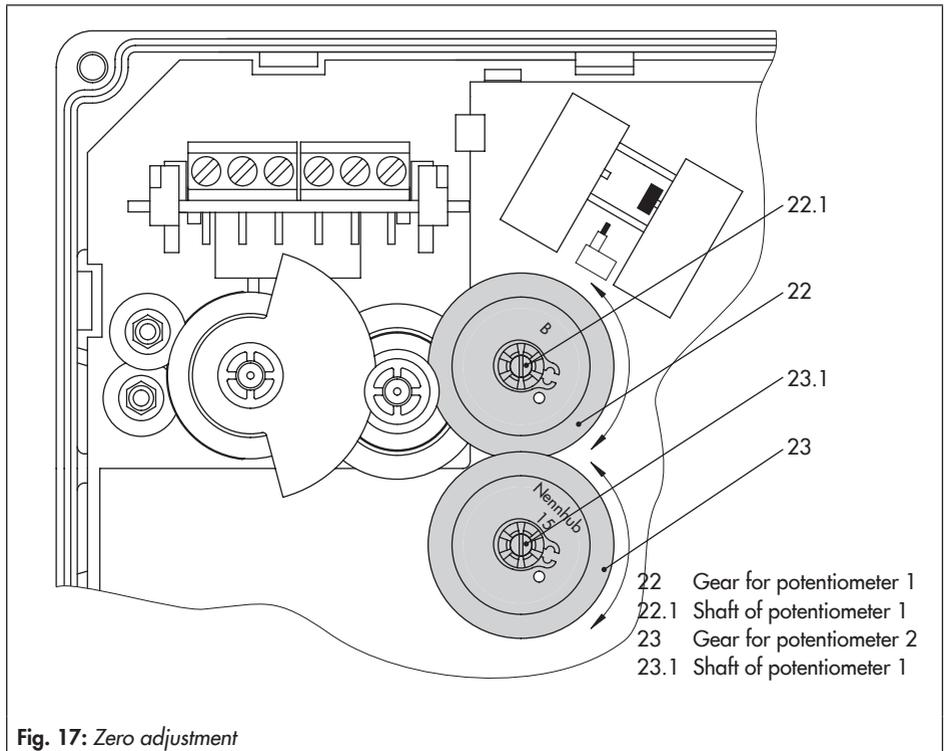

Fig. 17: Zero adjustment
4. The resistance transmitter gears (22 and 23) fitted with serrated rings must be put onto their shafts to correspond with the rated travel of the valve. The rated travel inscription 'A' 30 mm for rated travel or 'B' for 15 mm rated travel must be legible (see Fig. 17 on page 31).
5. Slide the actuator board (12) into its guiding. Make sure that the gears are properly engaged. Fasten the board using screws.